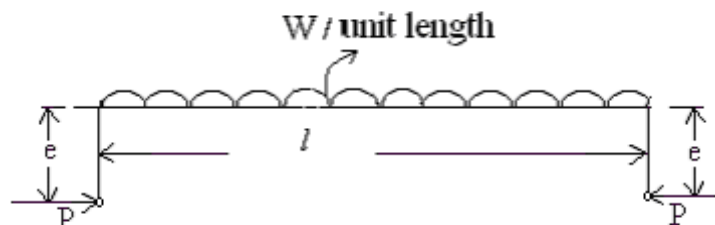

Figure 5
5. A pin jointed strut carries a u.d.l. of intensity 'w' per unit length and an eccentric axial load P at an eccentricity of 'e' as shown in figure 5. Find the deflection at mid span of the strut. [16]